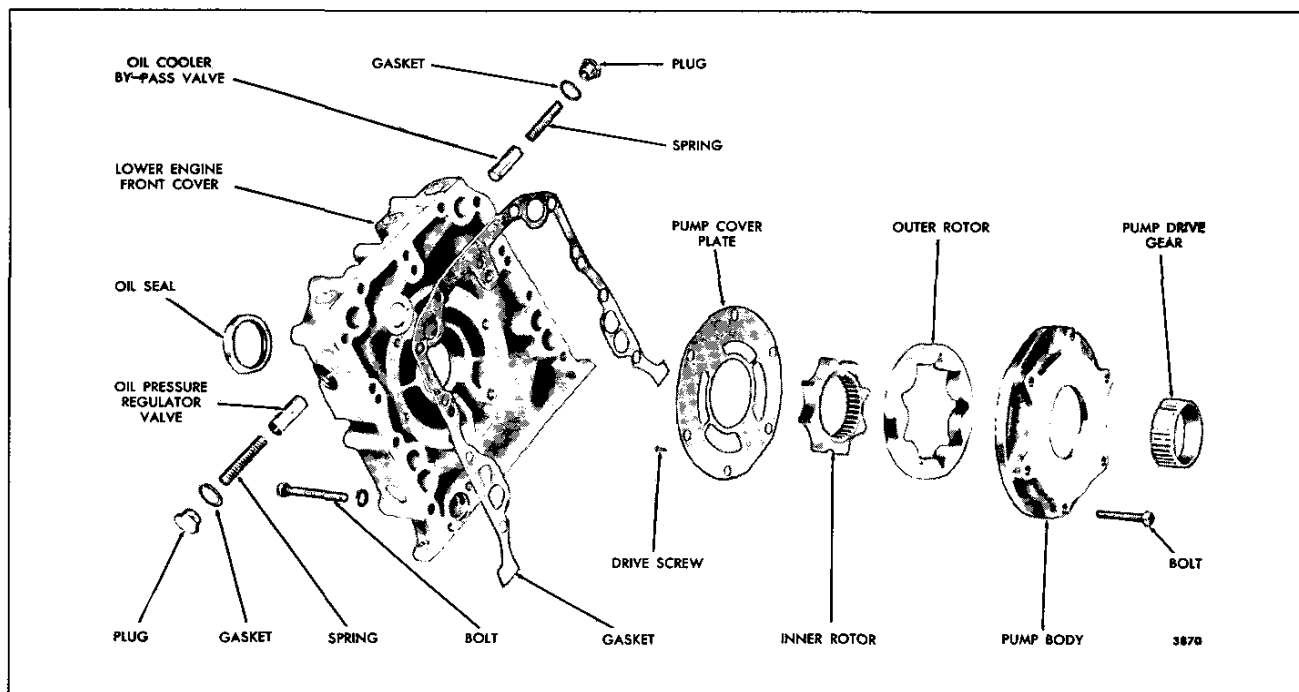

Fig. 5 – Oil Pump Details and Relative Location of Parts (Current)
1. Refer to Fig. 5 or 6 and remove the two drive screws holding the pump cover plate to the pump body. Withdraw the cover plate from the pump body.
After the oil pump parts have been cleaned and inspected, refer to Fig. 5 or 6 and assemble the pump as follows: